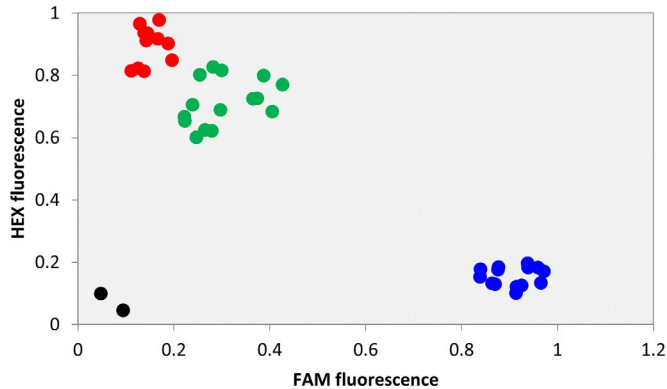

Figure 3. Three clusters are present on the plot, but the heterozygous cluster (green data points) has migrated towards a homozygous cluster (red data points).
**Plot characteristics:** the heterozygous group migrates towards one of the homozygous groups, making genotype scoring difficult (figure 3).